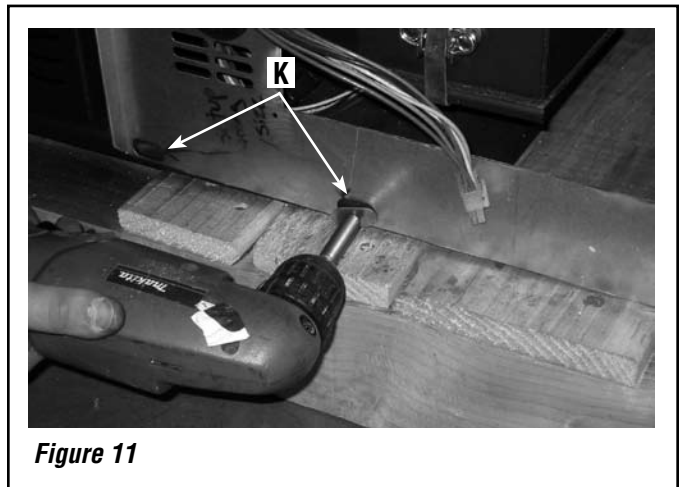

Figure 11
Step 10. Final step: Install the 4 door washers (K), using 4 of the sheet metal screws provided, insert two on each lower side of your ZC box (shown in the **Figure 11**). You are now ready to install your PI40 pellet insert. **Follow all vent clearances stated in your Installation and Operation Manual and the vent manufacturers instructions.**